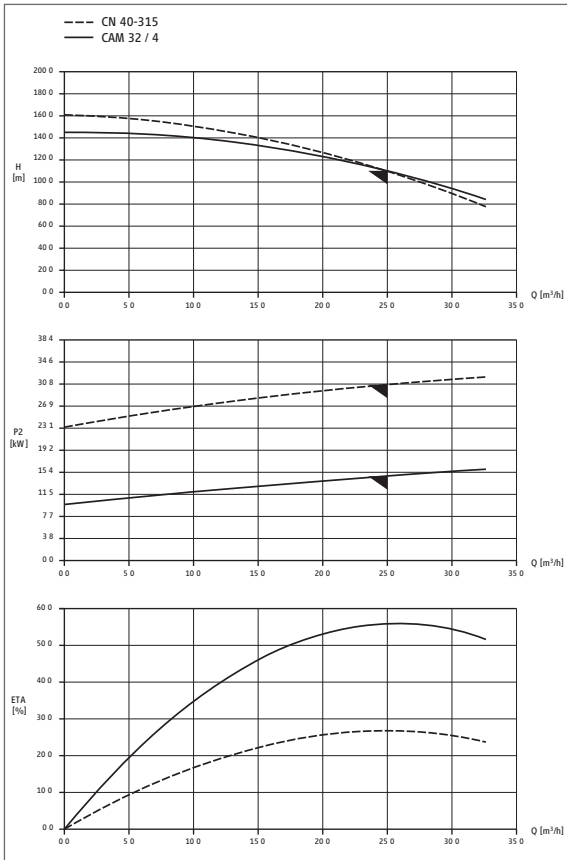

Figure 4: Performance curves for chemical standard pumps and linked pumps with canned motor
The first step is to select a single-stage canned motor pump with chemical standard hydraulics of construction size 40-315 with 2960 min⁻¹ [Figure 4]. The total power requirement is 30,7 kW according to the performance curve and at the efficiency of 26,8%. In accordance with the equation, the specific speed is (1) $n_q = 7$. If the total differential head is distributed to several stages, a pump with four stages as well as a canned motor of type CAM 32/4 and at a speed of 2955 min⁻¹ can be selected as an option. Thus, the specific speed increases to $n_q = 21$. The performance curve shows that the respective total power requirement only amounts to 14,8 kW since the total pump efficiency increases up to 55,8%!